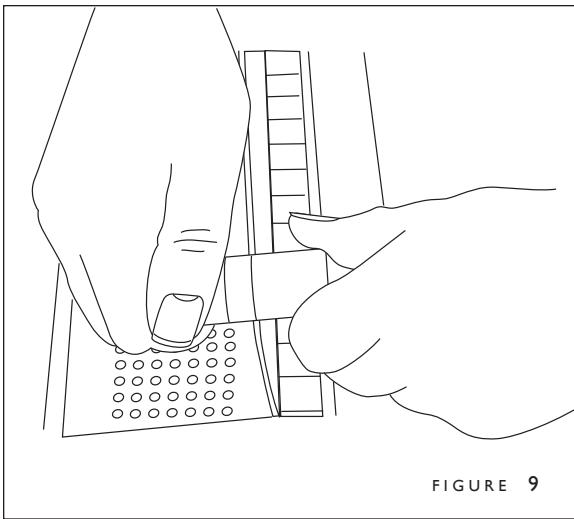

FIGURE 9
1. Loosen the paper stop by holding the rear portion of the stop and turning the front portion of the stop counter clockwise (Fig. 9).